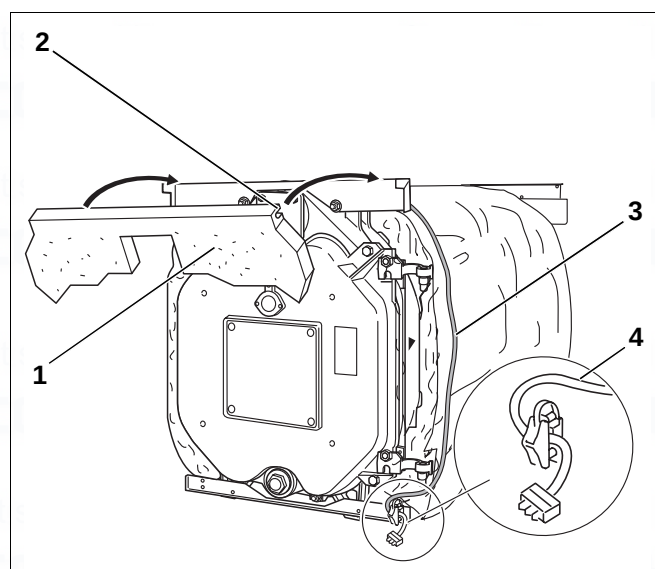

Fig. 34 Installation – front thermal insulation
- ▶ Push the front thermal insulation (Fig. 34, [1]) with slits (Fig. 34, [2]) onto the front folded edge of the top connection plate.
- ▶ Route burner cable (Fig. 34, [3]) over the thermal insulation down the side of the boiler block.
- ▶ Fasten the burner cable with strain relief to the bottom cross bar with two screws (Fig. 34, [4]).